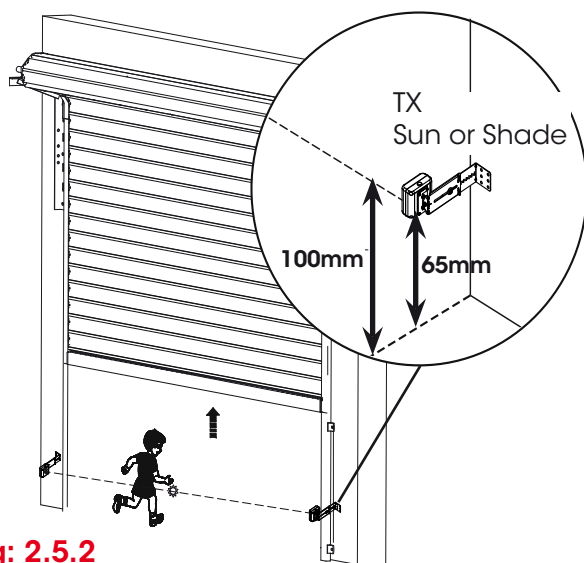
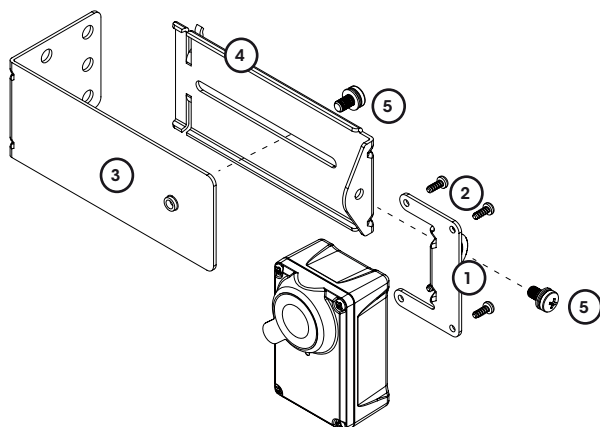

Fig: 2.5.2
Fig: 2.5.3
The transmitter and receiver need to be placed in line of sight, with the beam 100mm above the ground level (as per AS/NZS 60335-2-95:2012 Amendment 2:2018). This can be achieved by ensuring the bottom of the receiver and transmitter are 65mm above ground level. They should also be placed as close as possible to the shutter opening with the receiver (RX) in shade and the transmitter (TX) in sun or shade (Fig. 2.5.2).
- Attach the bracket ① to the Safety Beam Transmitter (TX) using four (4) M3 x 5 Taptite screws ② (Fig. 2.5.3).
- Connect the mounting bracket ③ to the adjustment bracket ④ with a M5 x 10 pan head screw ⑤.
- Affix the bracket ① with safety beam to the adjustment bracket with the remaining M5 x 10 pan head screw ⑤.
- Repeat steps (a) and (b) to assemble the Safety Beam Receiver (RX).
- Locate the each Safety Beam bracket next to the shutter guide, ensuring the bottom of the receiver and transmitter are 65mm above ground level as per (Fig. 2.5.2). The mounting surface should be rigid.